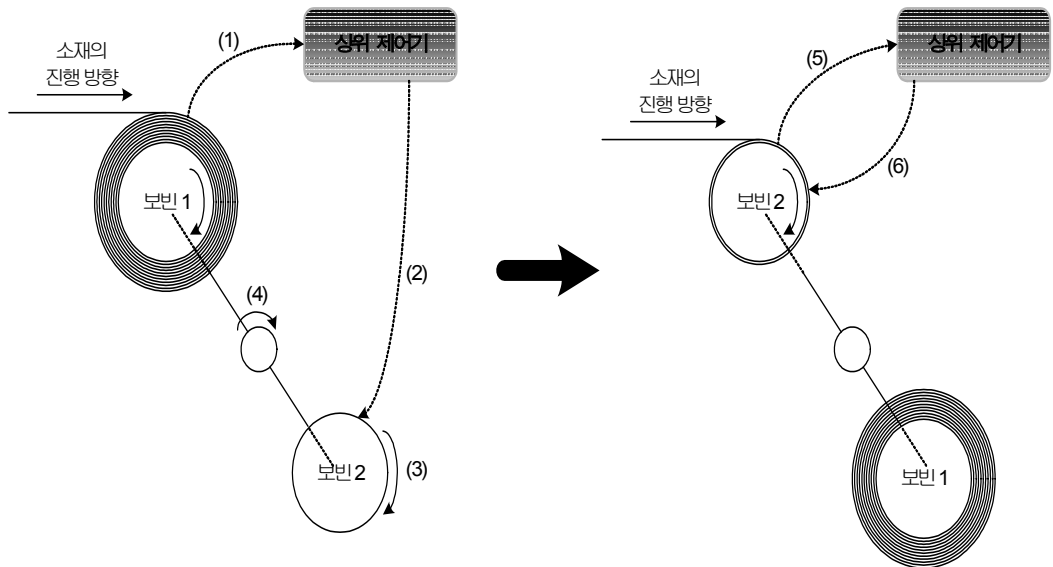

Figure 1.6.2 Conceptual diagram of splicing
If APP-54 (Fixed PID En) is selected as 'No,' which is factory setting value, the PID output[%], which is the output of the Web PID controller is always proportionate to the main speed[%] as seen in the Figure 1.6.2. That means, it maintains the ratio which PID output[%] takes up in the main speed. If the main speed [%] is decreased, the PID output [%] decreases by being proportionate to it, and if the main speed [%] increases, the PID output [%] increases in proportionate to it.
Usually the splicing system of the winder is composed as the Figure 1.6.2. The motion sequence is explained with the Figure 1.6.2.
The bobbin 1 sends the signal which indicates it is almost full to the upper controller. (Figure 1.6.2 (1))
The upper controller sends 'On' signal to the relevant multiple function input which is set up as '57:Web Splice' of the inverter controlling bobbin 2 which is currently empty. (Figure 1.6.2 (2))
The inverter starts to run the empty bobbin 2 with the command value combining main speed command[%] and APP-93 (Splice Level) as seen in the formula 1.6.6 – 1.6.8 while the output of Web PID controller is blocked. (Figure 1.6.2 (3))
The axis replacing bobbin rotates at 180 degree to replace the position of bobbin 1 and bobbin 2. (Figure 1.6.2 (4))
Send signal it is changed to bobbin 2 to the Upper controller. (Figure 1.6.2 (5))
The upper controller sends OFF signal to relevant multiple function input set as '57: Web Splice' of inverter which controls the bobbin 2 to stop the splicing motion. Now, the Web PID controller is operating again, and the diameter is being calculated again, the inverter's output frequency is decided by the formula 1.6.5. (Figure 1.6.2 (6))